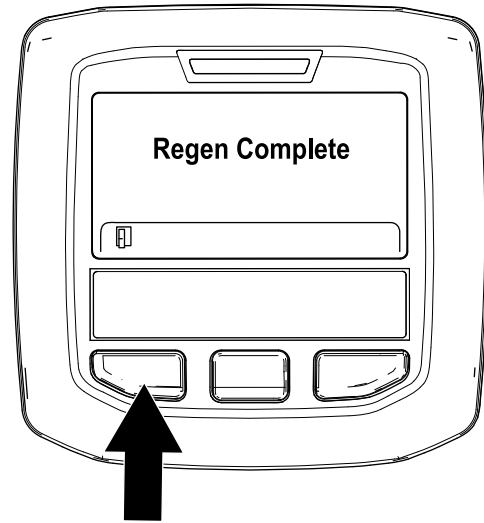

Figure 33
9. The parked regeneration is complete when the “Regen Complete” message displays in the InfoCenter. Press the left button to exit to the home screen (Figure 33).